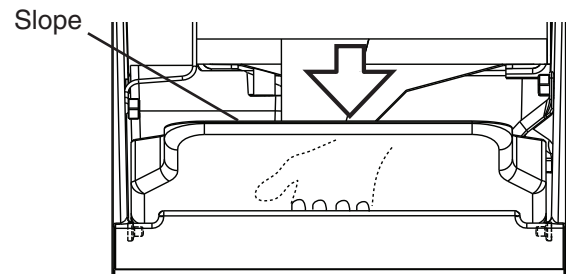

Fig. 48
- 17) Replace the slope in its correct position. See Fig. 48.